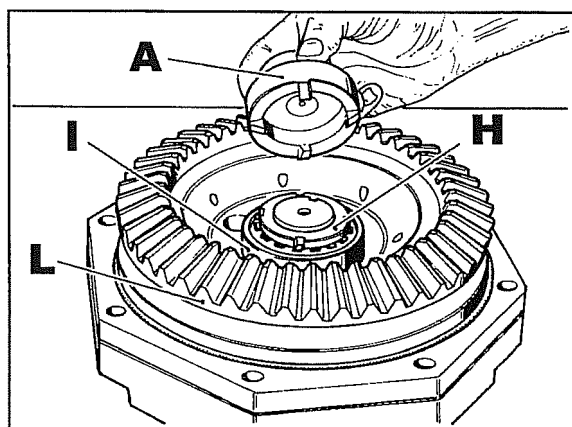

Fig. 23
- 33 Use special tool **A** fig. 23 to remove locking ring **H**. Use a commercially available extractor to remove bearing **I** and then remove the ring gear **L**.
- Locking ring **H** fig. 23 and its washer should be changed. When reassembling, tighten the new locking ring to **12 Kgm**, bend the washer and punch the locking ring